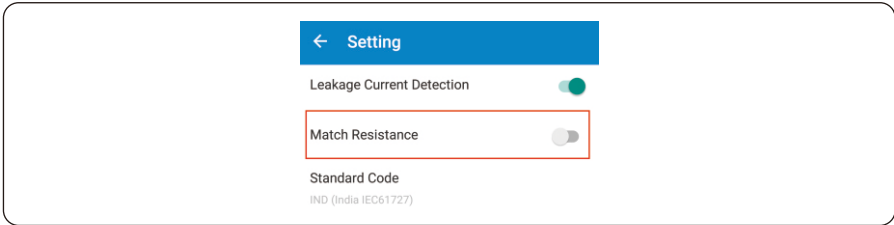

Figure 5.20 Setting Mach Resistances
Step 4 You can set Mach Resistance of the end of multi-RS485 connection chain, as showed in Figure 5.20.